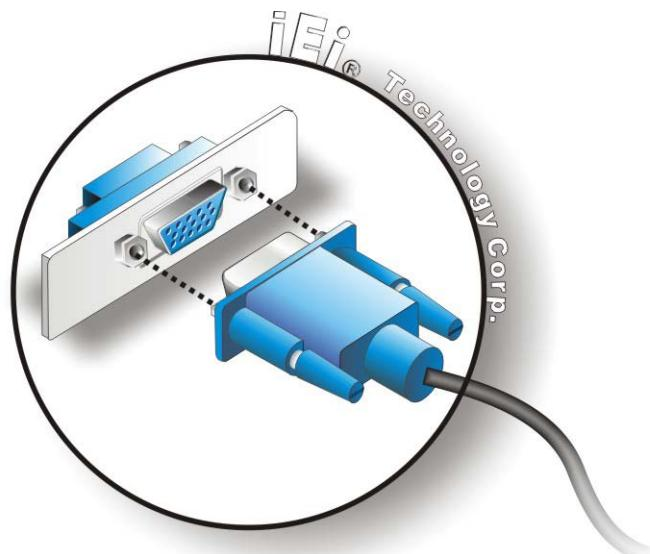

Figure 4-19: VGA Connector
- Step 3: Insert the VGA connector.** Once the connectors are properly aligned with the insert the male connector from the VGA screen into the female connector on the IMB-H612. See Figure 4-19.